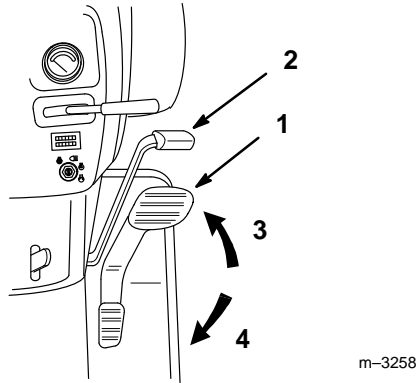

Figure 19
4. Place your foot on the traction control pedal and slowly press on the top of the pedal to move forward, or on the bottom of the pedal to move backward (Fig. 19). The farther you move the pedal in either direction, the faster the machine will move in that direction.